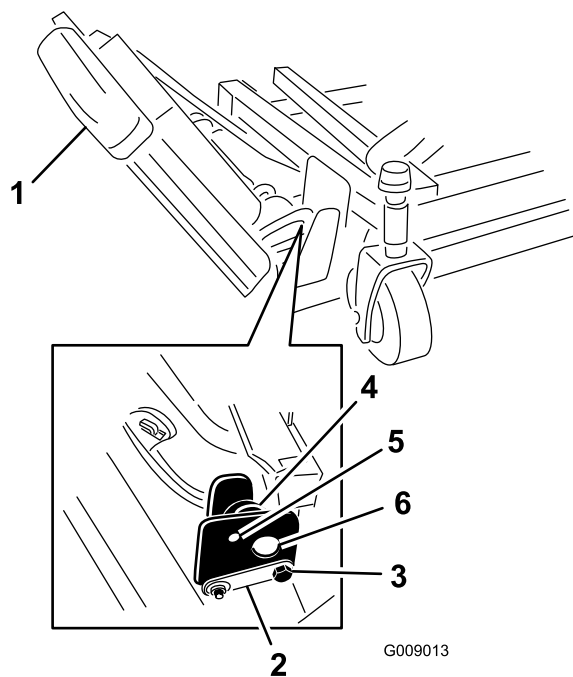

Figure 3
1. Remove the nuts securing the front and rear stop bolts to the right winglet deck mounts (Figure 3).
2. While supporting the right winglet, remove the front and rear stop bolts from the deck mounts (Figure 3). Leave the eccentrics positioned between the deck mounts.